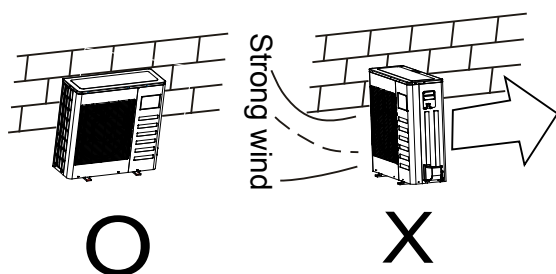

Fig.6-1
- In the case that the installation place is exposed to strong wind such as a seaside, ensure the fan operates properly by putting the unit lengthwise along the wall or using a dust shield. (Refer to Fig.6-1)